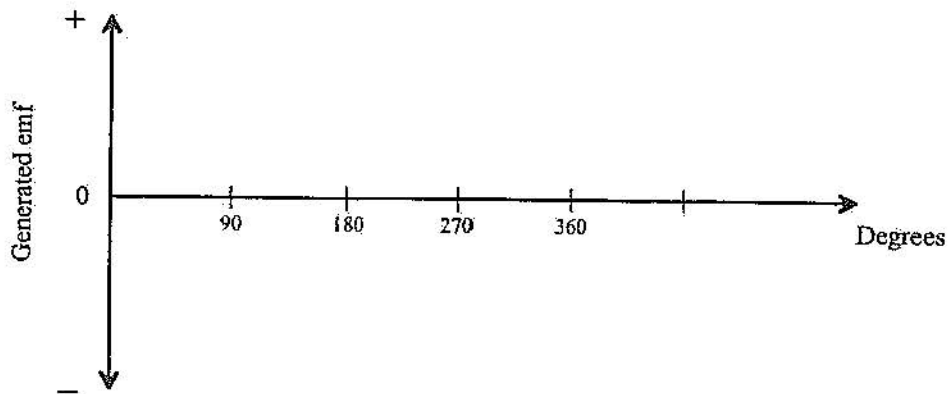

Figure 3
8. On the axis of figure 3, neatly draw the output waveform if the generated emf is connected to an external circuit via a commutator and brushes.